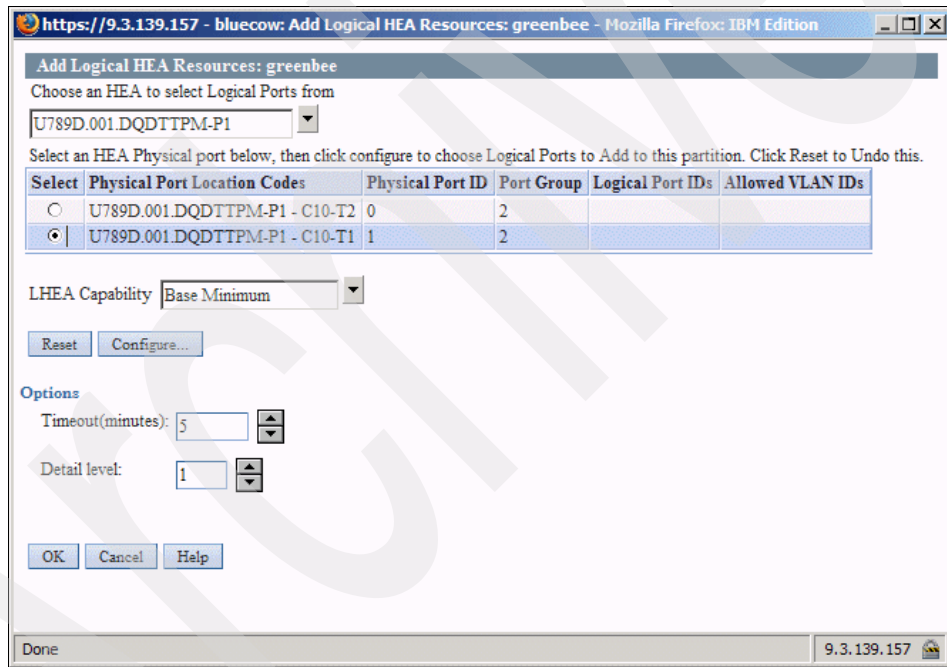

Figure 8-3 Selecting a physical port to assign to a logical HEA
- In the Add Logical HEA Resources window (Figure 8-3), select the HEA whose resources you want the LPAR to use.